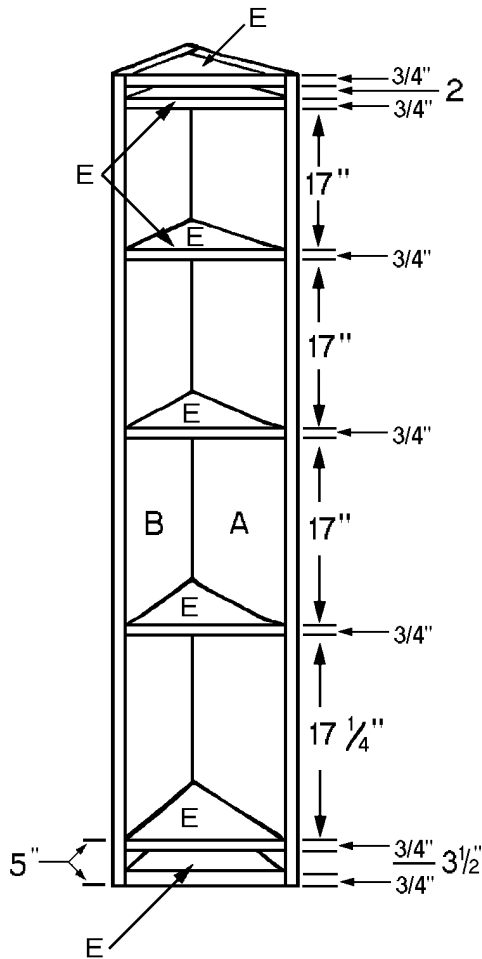

Figure 4
4. Measure and mark the placement of all of your shelves (E), following the diagram in *Figure 4*. The top and bottom shelves (E) should be flush with the top and bottom of the cupboard backs (A and B).
5. Check the fit of each triangular shelf (E) in its position before attaching it. Secure the shelves (E) to the cupboard backs (A and B) using both glue and screws. Use six to eight 1-1/4"-long screws in each shelf. To prevent the screws from showing in the front, drive the screws through the back of the cupboard into the shelf edges.